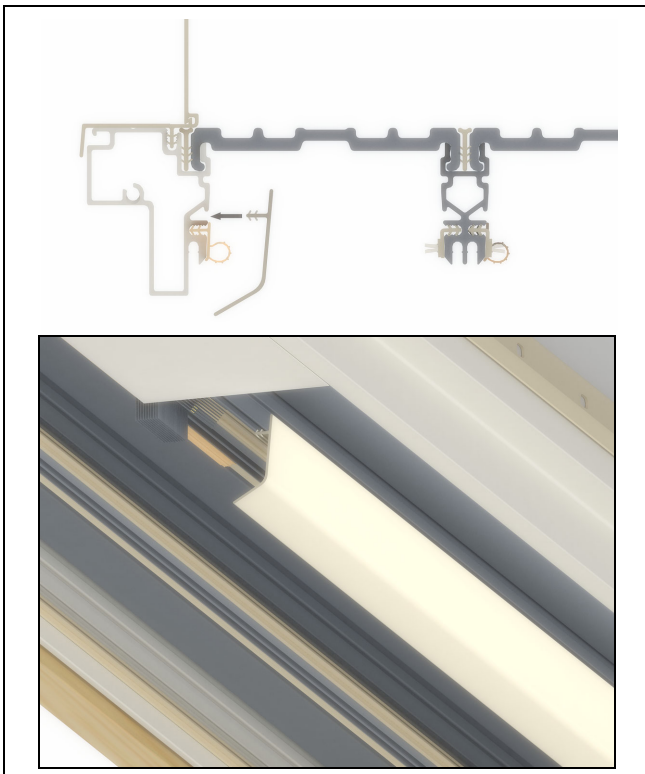

Figure 46
1. Install the weather strip guard by measuring the overall panel width and placing the four weather strip guards into the kerf above the head jamb weather strip the panel width apart. See figure 46.